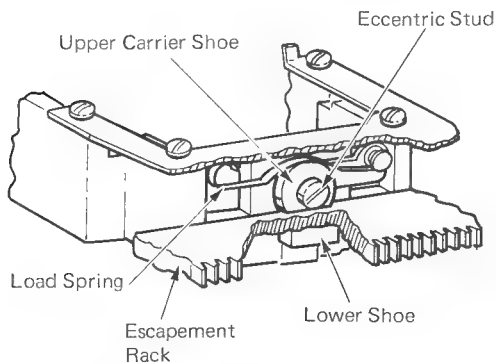

Figure 3 – Rear Carrier Support (Level 2)
*Level 2 Machines* -- Two carrier shoes are used. A load spring is used to maintain a constant pressure on the upper carrier shoe and remove the play between the lower shoe and the bottom of the escapement rack (Figure 3).